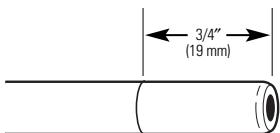

Fig. 6
- Measure 3/4" from the end of each remaining piece of tubing (faucet end and inlet end) and mark with a pencil (Fig. 6). (Check for roundness, smoothness, cuts, nicks, flat spots and sharp edges. It may be necessary to recut the tubing.)